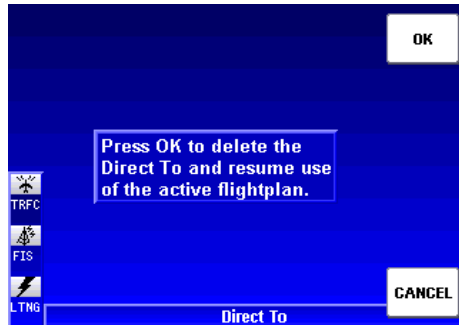

Figure 1-145
2. Press the **DELETE DIRECT** Softkey to display Figure 1-145.